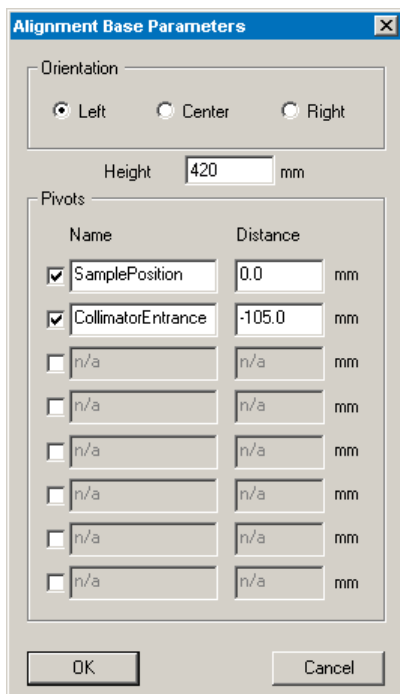

Figure 1.3 — Alignment base Parameters
4. Set the parameters (Figure 1.3):